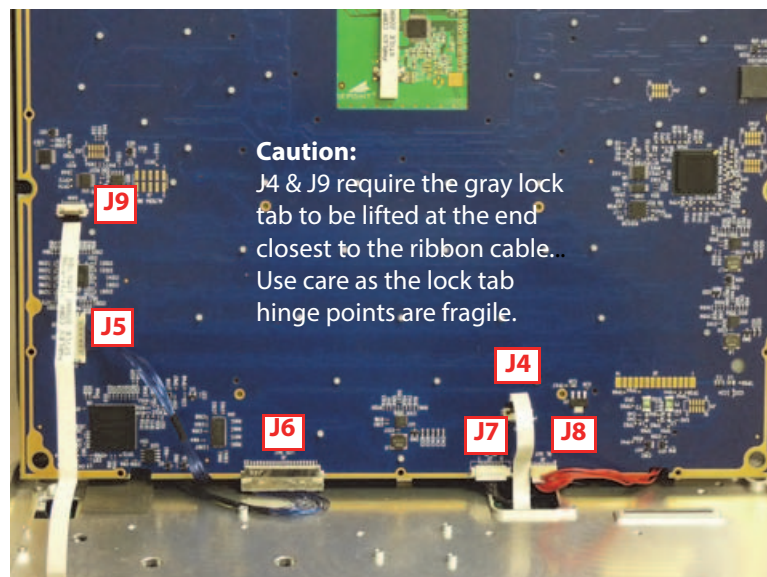

Figure 6.6 Control Panel Bottom
- 9 Remove the J4 "SPI" and J9 "GAIN" ribbon cables after unlocking the dark gray retainer on both sockets as shown in Figure 6.6.
- 8 Remove the J4 "SPI" and J9 "GAIN" ribbon cables after unlocking the dark gray retainer on both sockets as per Figure 6.6.
- 3 Connect the J4 "SPI" and J9 "GAIN" ribbon cables and lock the dark gray retainer on both sockets as shown in Figure 6.6.